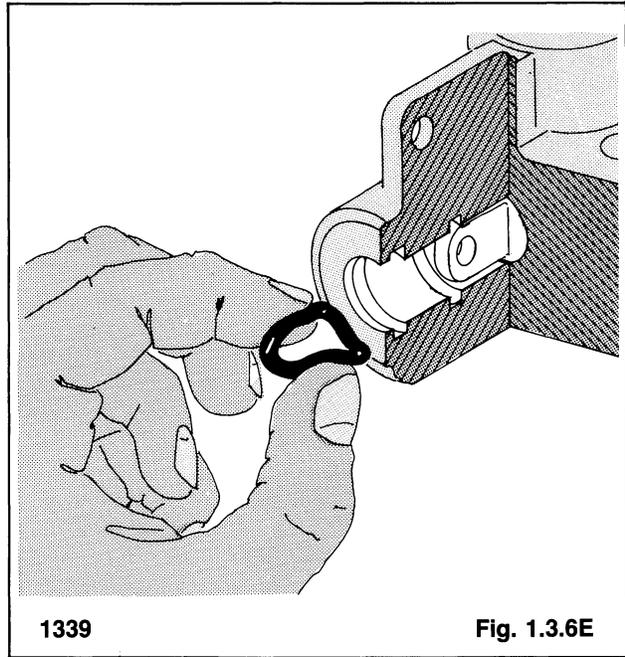

Fig. 1.3.6E
10. Push the spool back into the valve body, rotating the spool while pushing, until the clevis end of the spool is even with the back edge of the O-ring groove at the front of the valve body (fig. 1.3.6e).
12. Lubricate a new O-ring with system oil and install in the O-ring groove (fig. 1.3.6e).